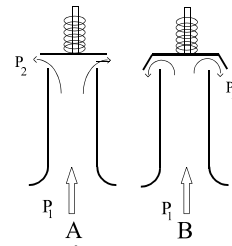

Fig. F-13
**F-13** Figure F-13 illustrates the flow in the nozzle of a relief valve attached to a large pressure vessel. The fluid is water at 150°F, and in both cases the pressure in the vessel is  $P_1 = 100$  psig and  $P_2$  is atmospheric when the valve opens. In case A, the fluid impacts on the disk and is diverted parallel to the disk (90° from the axis of the nozzle), and in case B the fluid leaves the disk at an angle of 45° downward from the plane of the disk. The diameter of the nozzle is 2 inches and the clearance between the end of the nozzle and the disk is 1/2 inch in both cases. If the loss coefficient for the valve/disk system is 0.25 based on the velocity in the nozzle, determine: